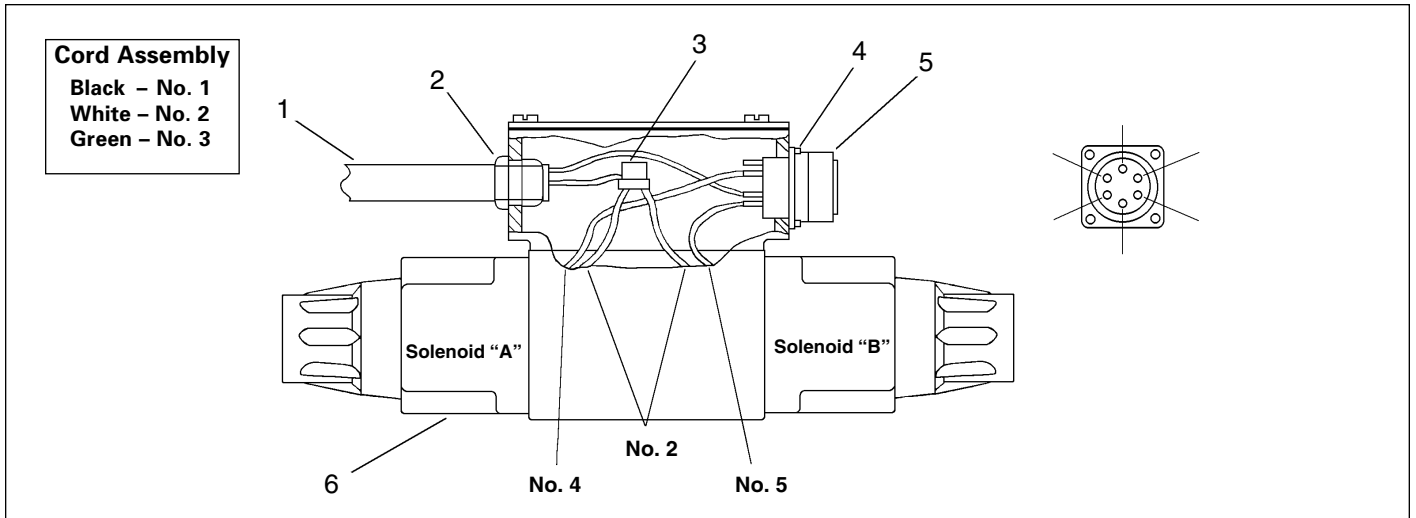

Figure 3, Solenoid Assembly
Repair Parts List for Figure 3
1. Remove solenoid assembly (see Figure 3) by removing cover and four screws that hold solenoid assembly to valve block. **NOTE: Do not disassemble solenoid assembly.**
2. Carefully reseal small balls in reliefs. Replace guides, springs, and adjusting screws. Use care when turning adjusting screws so as not to distort or displace springs. Pilot relief spring can be forced into cross hole by bottoming screw. Do not install gaskets (item 11) or screws (item 6) at this time as adjustments to reliefs will be made during testing of the valve. NOTE: New seats must be seated by placing the ball on the seat and pressing to 200 PSI on a 10 ton press.
3. Assemble advance and retract piston sections by installing gaskets (item 10) and lower seats (item 22). Torque lower seats to 20-25 ft. lbs. Install balls (item 5), spring and spacer assemblies (item 36), balls (item 5), gaskets (item 25) and upper seats (item 21). Torque upper seats to 35-40 ft. lbs. A. Attach couplers to both ports. Connect each port to hand pump and 15,000 PSI gauge. Adjust each high pressure relief to 11,500-12,000 PSI. Valve should hold pressure at 10,000 PSI without leakage. Both seats in directional circuits will be checked in this operation.
5. Install springs (item 7) and piston assemblies (item 33) into advance and retract sections of valve body. Install square rings (item 28) between piston and cover plate.
6. Assemble pilot piston section by installing spring (item 19), spacer (item 37), ball (item 4), gasket (item 25) and seat (item 20). Torque seat to 35-40 ft. lbs. Install pilot piston assembly (item 30), spring (item 8) and spacer (item 13).
7. Use seven cap screws (item 23) to bolt cover (item 24) and gasket (item 39). Insert adjusting screw (item 27) and locknut (item 14). Do not install acorn nut (item 17) at this time as adjustments will be made during testing.
8. Install solenoid assembly (see Figure 3) using four cap screws and cover to valve body.